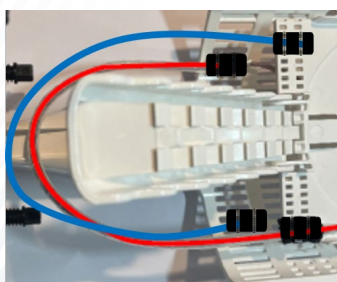

Figure 12
1. Pass the spiral wrap around the back of the splice tray stack [figure 12].